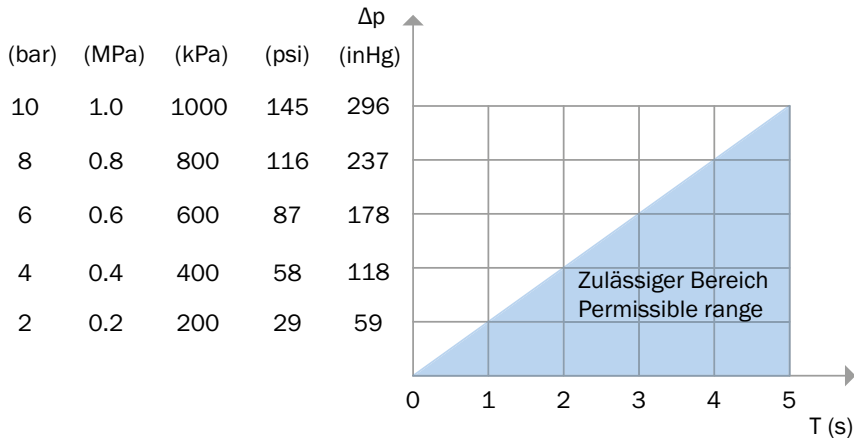

Figure 1: Minimum permissible period  $T$  with maximum pressure fluctuation  $\Delta p$  Transport, packaging, and storage
- Do not allow the device to heat up to an unacceptable level as a result of repeated compression of the compressed air. The minimum permissible period for pressure fluctuations  $\Delta p$  is specified in Figure 1.